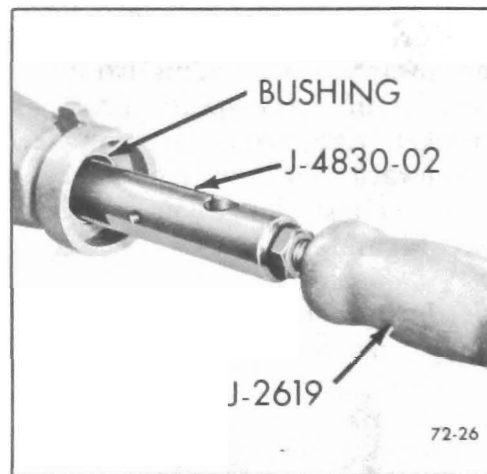

Figure 72-325 Removing Rear Bearing Retainer Bushing
2. Using Tool J-2619 Slide Hammer and Tool J- 4830-02 Puller, remove rear bearing retainer bushing. See Figure 72-325.